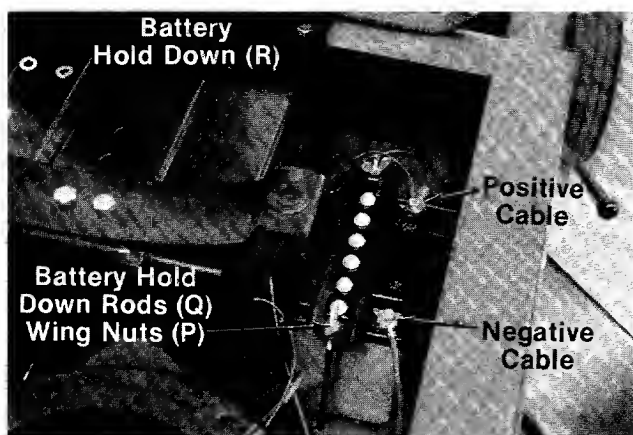

FIGURE 16.
1. Place the battery in the rider with the positive terminal to the front. The negative terminal goes to the rear of the unit. See figure 16.
3. Secure the battery in place with battery hold down (R) and hold down rods (Q). Secure with two wing nuts (P). See figure 16.
4. Place the positive cable and small red wire with in-line fuse on the positive terminal. Secure with bolt, nut and lock washer provided with battery. See figure 16.
5. Place the negative cable on the negative terminal. Secure with bolt, nut and lock washer provided with battery. See figure 16.